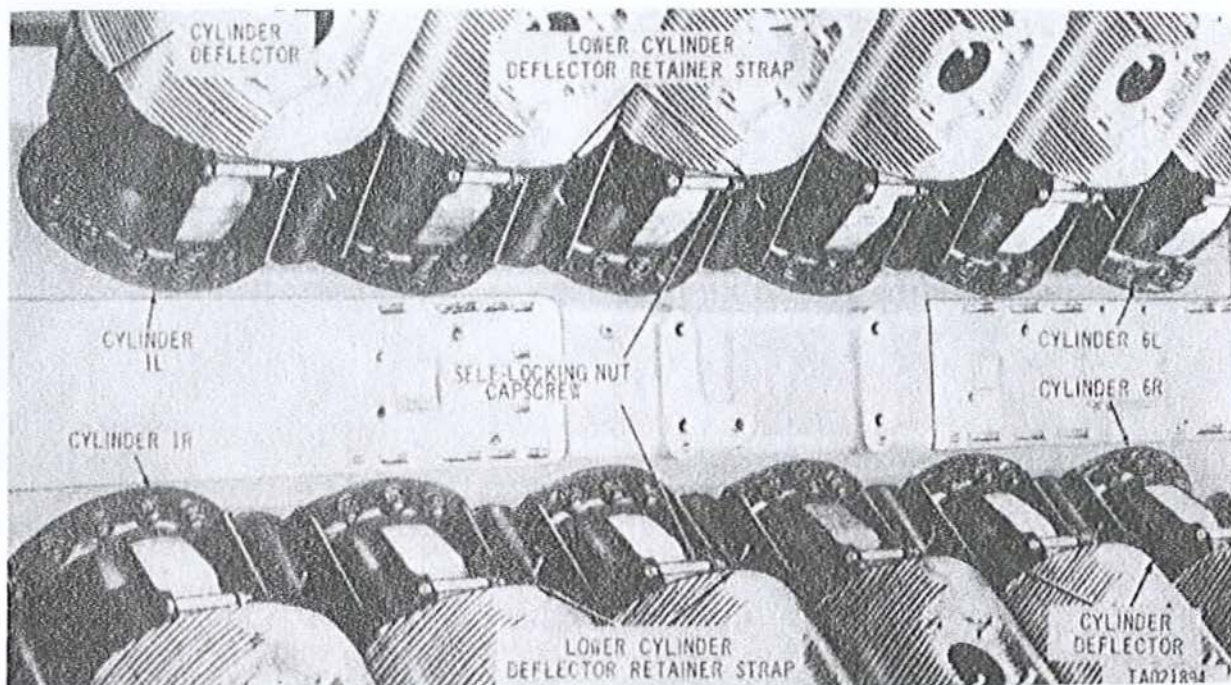
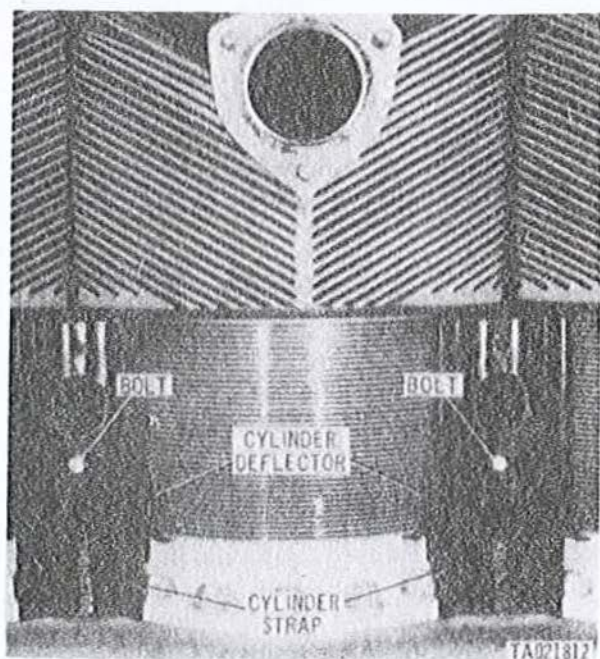

Figure 3-100. Disconnecting or connecting cylinder deflectors at cylinders.
Figure 3-101. Removing or installing lower cylinder deflector straps and deflectors right side.
a. Remove twelve self-locking nuts, cap screws and spacers (fig. 3-100) attaching cylinder air deflectors to cylinder assemblies. Remove the four end cylinder air deflectors located at cylinder Nos. 1R, 1L, 6R and 6L. The ten lower cylinder deflector retaining straps are also secured by bolts (fig. 3-101).
b. Remove five volts (fig. 3-101) that attach the five lower cylinder deflector straps on each side of engine. Remove the ten lower cylinder straps and the ten lower cylinder deflector retainer straps (fig. 3-100) and remove all cylinder deflectors (fig. 3-101) from cylinder assemblies.